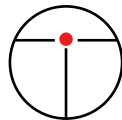

Figure 2
In some instances, the reticle will appear too high or too low. In order to compensate this difference, the top and bottom elevation adjustment screws (3) can be adjusted. For example, in figure 2 the bullet's point of impact is high, and the reticle has been centered to this grouping.